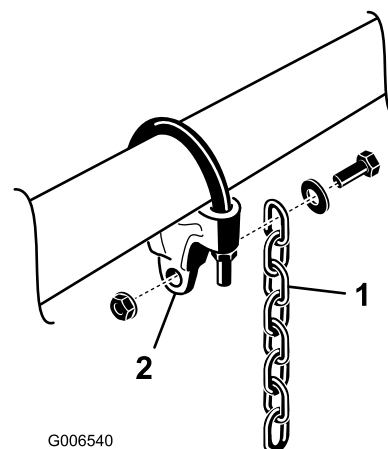

Figure 7
- Mount a lift chain to each chain bracket with a screw, washer and nut, positioning as shown in Figure 7